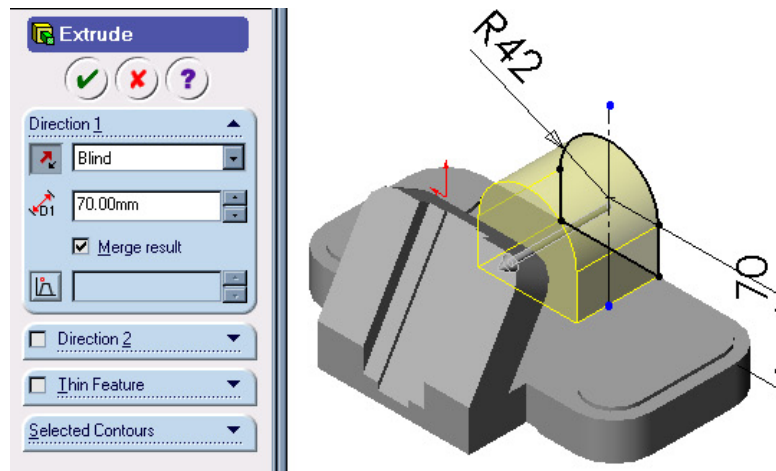

Figure 23 Counterbored hole boss
32. Click **Reverse Direction**  to flip the extrusion direction as shown in Figure 23.